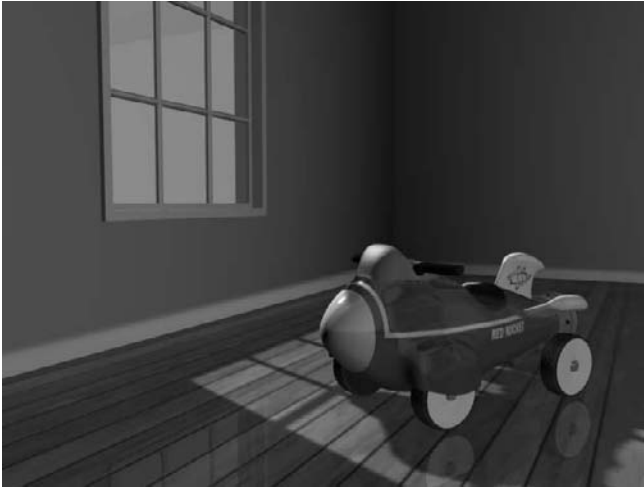

Figure 10.82
3. Quick Render your scene to take a look. Now you can see shadows. We didn't exclude the whole window with its frame because the inside frame is a nice detail to cast shadows. Figure 10.82 shows the render with the shadows.